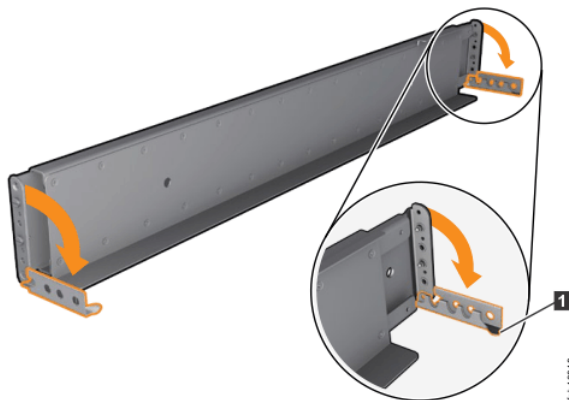

Figure 32. Opening the hinge brackets
6. At each end of the rail, grasp the tab **1** and pull *firmly* to open the hinge bracket (see Figure 32 on page 67).